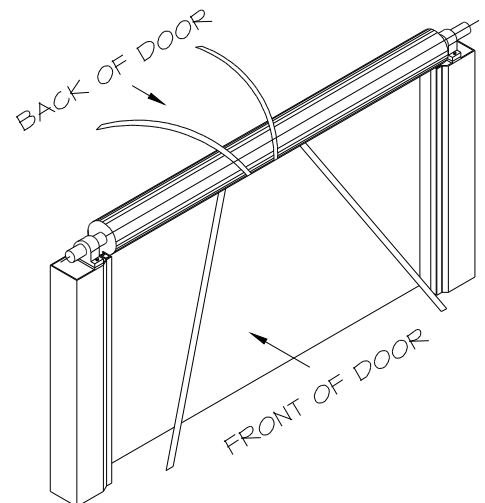

FIG. 12B
- Flip two longer inner straps over the top of the Fabric Roll (Figure 12b).